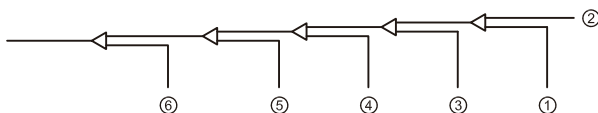

Fig. 5-14
8. Flush the other openings in the same manner, working in sequence from indoor unit A towards the outdoor units. Refer to Figure 5-14.